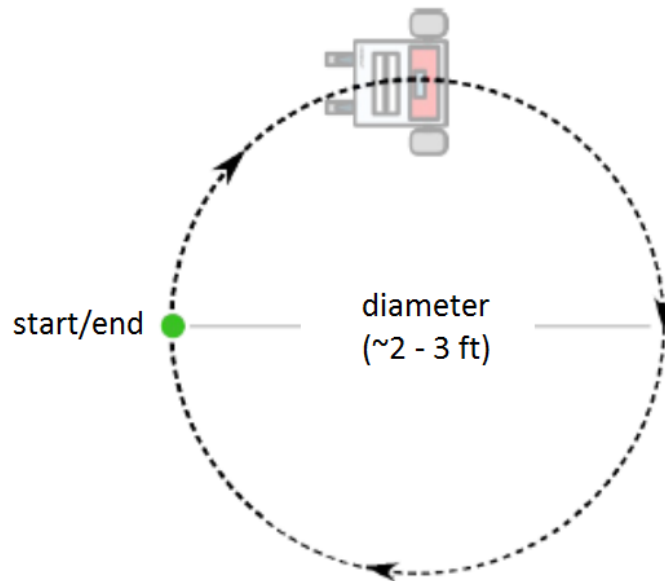

Figure 4: Circle Robot Motion
1. Write a "Circle" program to move the robot in a circle with a diameter between 2 and 3 feet (see Figure 4).